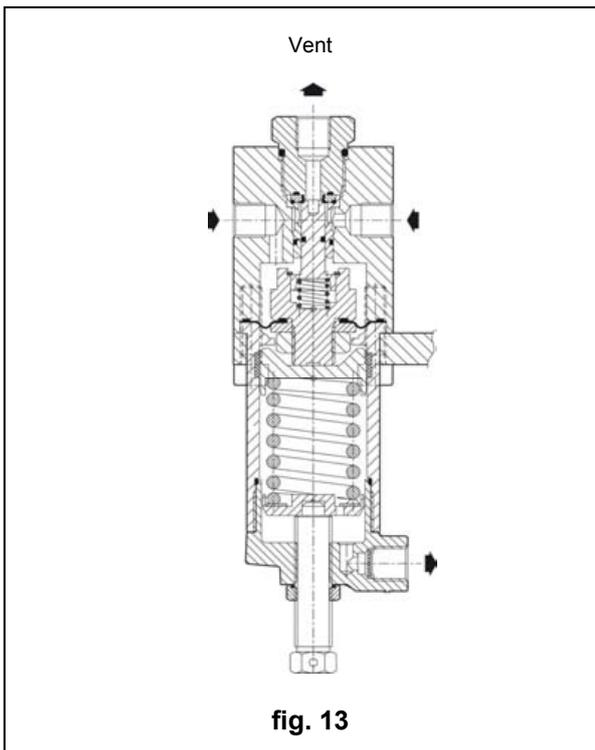

fig. 13
An accelerator (fig.13) is installed on the REFLUX 819 regulator (use as in-line monitor) to speed up the intervention in the event of failure of the active regulator (recommended when used safety accessory according to Directive 97/23/EC "PED").
- 5) Completely increase the setting of the accelerating valve 12 by turning the adjustment screw (fig. 13) clockwise.